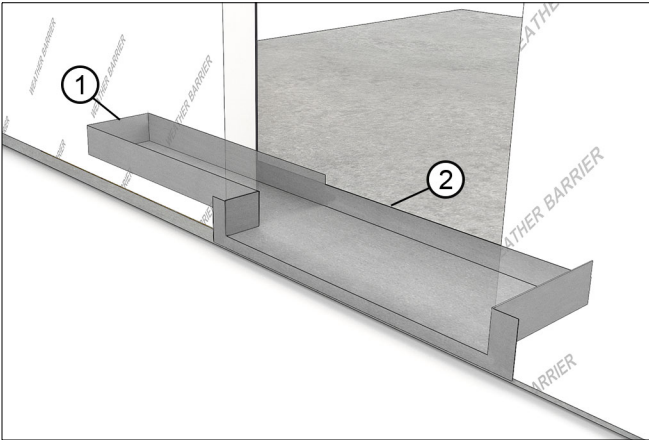

Figure 11 Pocket panning for Performance or Flush sill shown.
- 3. Pocket panning must have a minimum of 4" (102) end dam on all sides of the pocket. The rear leg of panning must be as high as the interior sill liner. See Figure 11